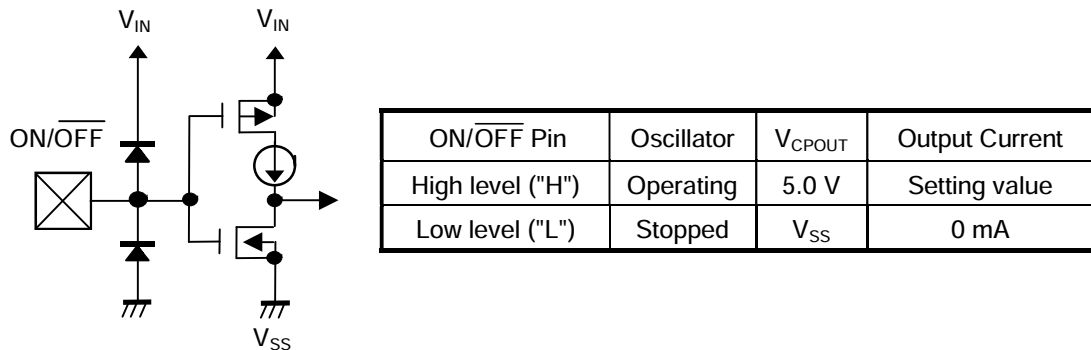

Figure 10 Equivalent Circuit of ON/OFF Pin
- The ON/ $\overline{\text{OFF}}$  pin is configured as shown in Figure 10 and is neither pulled up or down internally, so do not use this pin in a floating state.